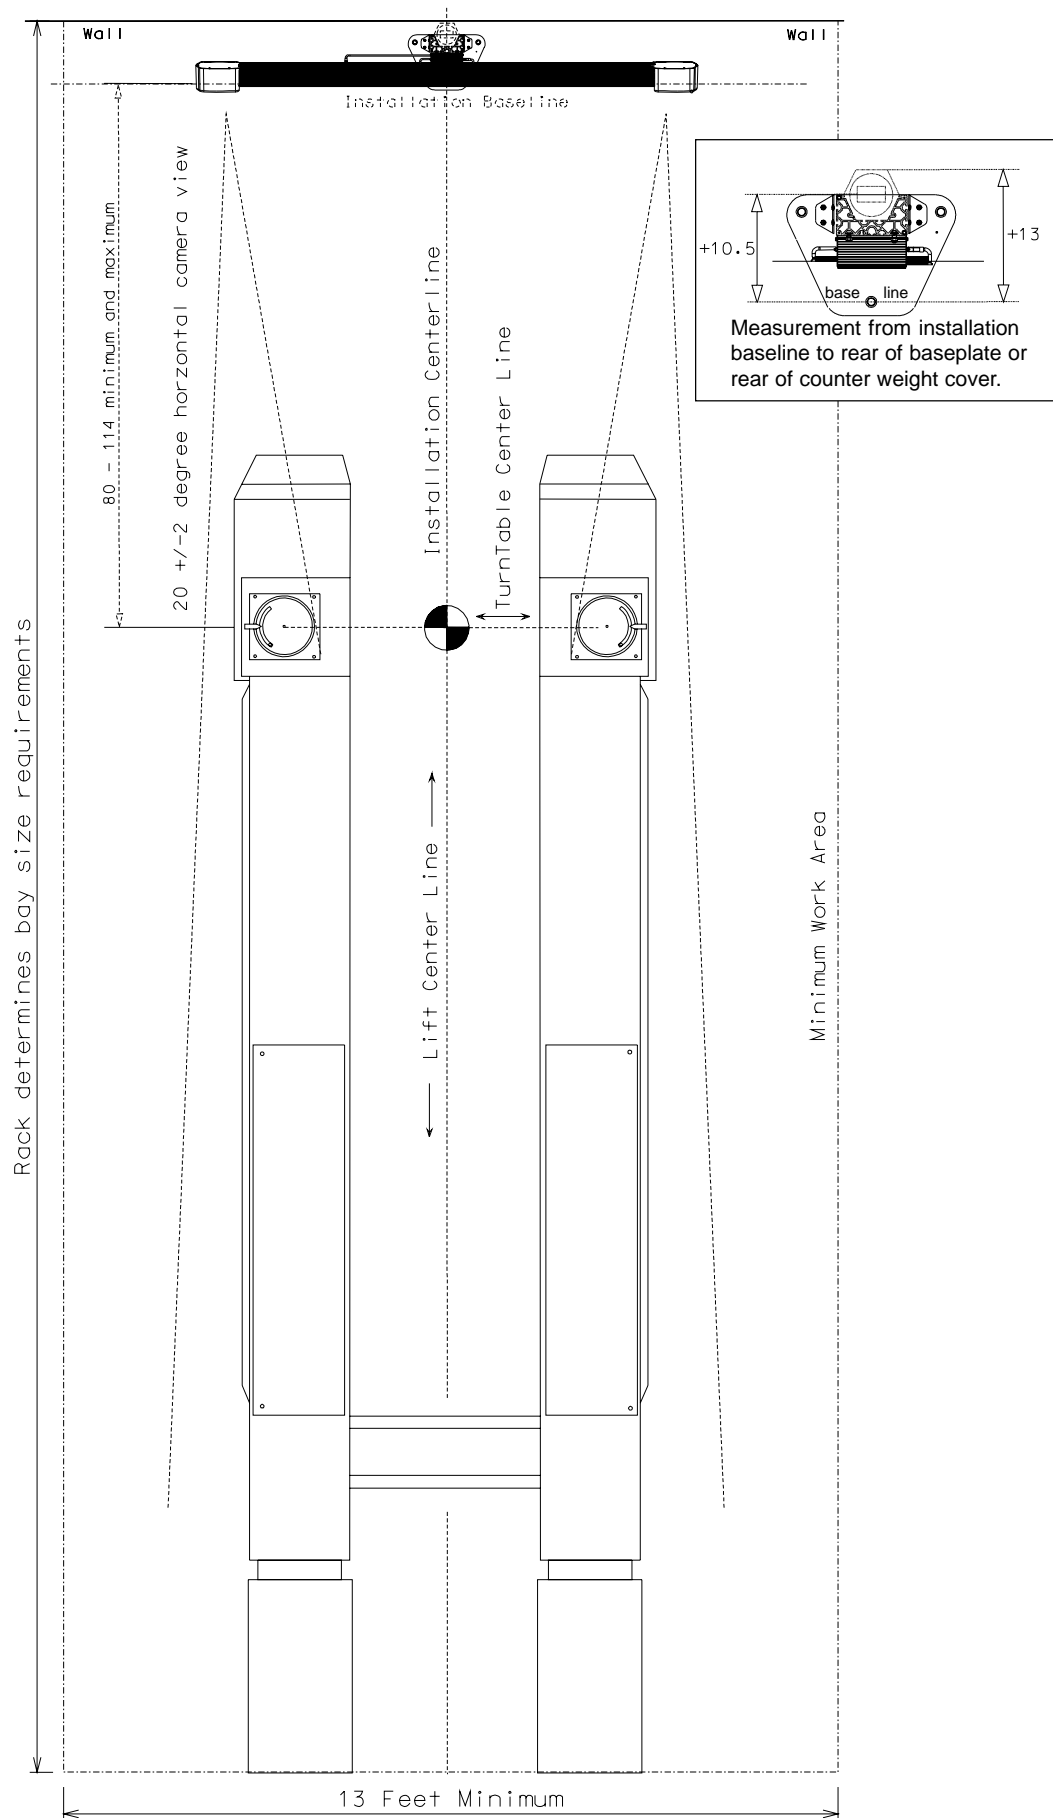

Figure 5
1. Determine the **Lift Centerline**. Measure between runways front and rear and mark midpoints on both. A mark can be made forward of the lift by placing one end of a string at a spot on one side of the lift, placing a marker on the other end of a string, and scribing an arc forward of the lift across the centerline. Repeat scribing an arc from the same spot on the other side of the lift. The intersection of the two arcs is the lift centerline. Use a chalk line to snap a centerline between the marks, and project out at least 114 inches in front of the rack, or to the shop wall if closer. See *Figure 5*.
2. Determine the **Turntable Centerline** by raising the lift to the predetermined alignment height. Use a plumb-bob from the center of the turntable and mark a spot on the floor next to each turntable. Snap a chalk line through the marks to establish the centerline. Use the plumb bob on the outside of the turntables to mark a center spot on the floor on the outside of each runway. See *Figure 5*.
4. Determine the **Installation Baseline**. The Ultra™ camera supports must be installed a minimum of 80 inches (2032 mm), and no greater than 114 inches (2896 mm) from the center of the turntables to the front bolt hole of the support base. Measure the distance desired within above parameters from the turntable centerline forward at two locations and mark these points. Snap a chalk line on the floor through these two points. This is the **installation baseline** used to locate the front base anchor bolt. (See *Figure 5*). Record this distance in the ***INSTALLATION DIMENSIONS WORKSHEET*** shown on page 7.
NOTE: Baseline distance is measured from the front baseplate hole, which is on the same vertical plane as the camera face, to the center of the turnplate. Consider also the distance from the front hole (camera face) to the rear of the baseplate assembly to allow for mounting against a wall or other bay obstruction. See Figure 5 for detail. The Distance from the camera face to the rear of the baseplate is 10.5 inches if a rigid support is used. Add 13 inches minimum if a movable beam is to be installed.
3. Position column/base assembly onto floor and square up with the installation baseline and lift center line using measurements made earlier. Refer to Figure 5 on Page 9 for layout detail. Using a marker, mark the front anchor hole location.